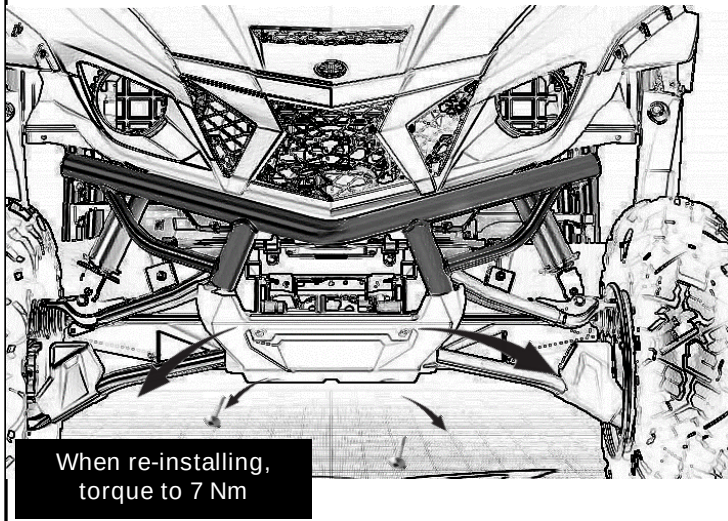

Fig. 2
2. Remove the bolts holding the stock front bar to the vehicle frame. Note the locations of the mounting bolts. There are 2 upper frame bolts, 3 lower frame bolts and 2 fender bolts. Retain these bolts for reuse as needed. The lower frame bolts will not be reused.(Fig. 2)
4. Align/Install the new Brush Guard ① to the front of the vehicle and insert the 3 ② Flange bolts from the kit into the lower frame holes.
6. Insert the smaller fender bolts to the upper corners of the Brush Guard ①. (Fig.2)
7. Once all the hardware is installed. Torque the 3 lower mount bolts ② to 48-58 Nm (5.9 m-kg, 42.7 ft-lb maximum) as shown in (Fig. 2).
8. Torque the 2 upper mount bolts to 48-58 Nm (5.9 kg-m, 42.7 ft-lb maximum) as shown in (Fig. 2).
9. Torque the 2 upper fender mount bolts to 5-8 Nm (0.8 kg-m, 5.9 ft-lb maximum) as shown in (Fig. 2).